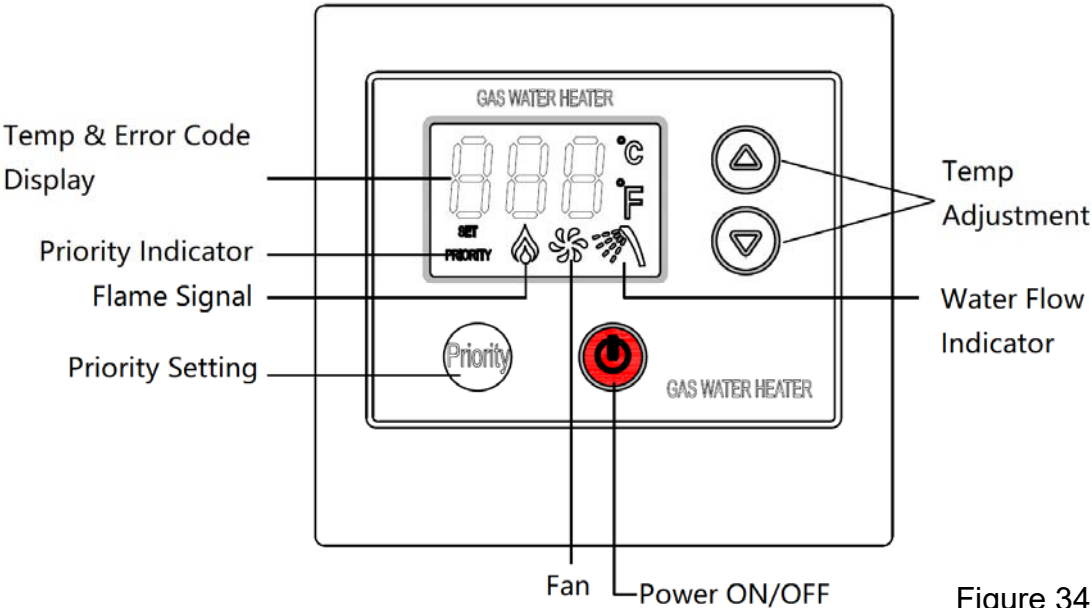

Figure 34
2. For water heater installations with more than one remote control installed, press the priority setting button  once to assign priority status to the controller. If successful, the priority indicator will illuminate and the controller can be used to adjust the water temperature setting – see Figure 34. Water temperature can only be adjusted higher than 48°C with the hot water supply OFF at all outlets. Always press the priority button before adjusting water temperature. Priority reassignment can only take place when there is no hot water delivery. Refer to point 6 in page 35 for multiple controllers priority switching.
Ensure the heater has not been in operation for at least 1 hour and the casing is not hot. Use a vacuum cleaner to clean around the water heater to remove any dust, dirt, and/or lint build up, particularly near the air intake or vent outlet – see Figure 34. Use a damp cloth to clean the hot water heater casing. Dry the surface afterwards. Never use gritty or abrasive sponges. Acidic materials like vinegar and citric juices etc can damage the most resistant surfaces.